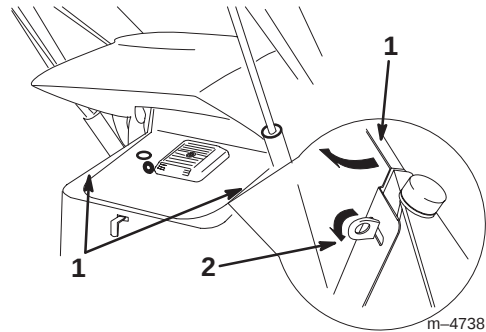

Figure 22
2. Pull out and turn the two locking tabs on the inside of the side screen until they line up with the slots in the screen (Fig. 22).
3. Slide the slots in the screen over the locking tabs (Fig. 22).
4. Turn the tabs and fold them down to lock the screen in place (Fig. 22).